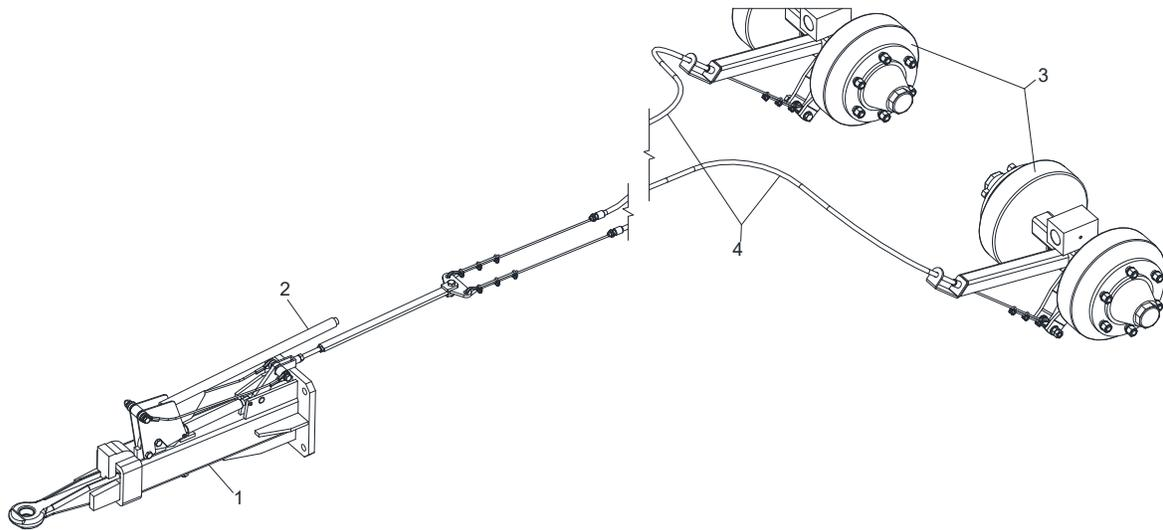

Fig. 21 Overrun brake system
- Overrun device (Fig. 21/1) with brake lever (Fig. 21/2)
- Reverse drive axles (Fig. 21/3)
- Brake cables (Fig. 21/4)
1. Fastening the reflectors (Fig. 21/2):
Attach to the protective cover and to the belt unit with dimension A (Fig. 21/A) 360 mm (14.17") and dimension B (Fig. 21/B) 60 mm (2.36") at the front on both sides and on the opposite side from the rear using 5x16 blind rivets.
2. Attach the LED lighting unit (Fig. 21/1):
The lighting unit (Fig. 21/1) is secured to the rear wall of the hopper of the disc spreader using hexagon bolts M8x12 and hexagon nuts M8.
3. The electric cable with 7-pin plug (Fig. 21/4) is secured using the fastening clamps (Fig. 21/3) and guided forwards under the wheel cover.
4. The lighting unit is connected to the towing vehicle via a seven-pin plug (Fig. 21/4) for the 12V power supply.